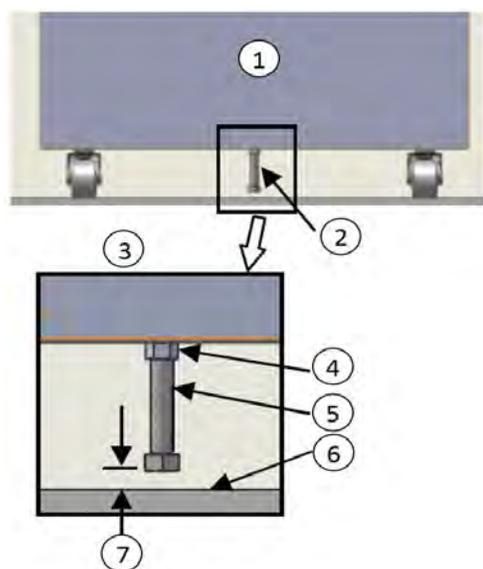

Figure 2. Bolt Location
- Unscrew 1/2" bolt until there is 1/2" clearance between floor and head of bolt as shown in the "Figure 2. Bolt Location".